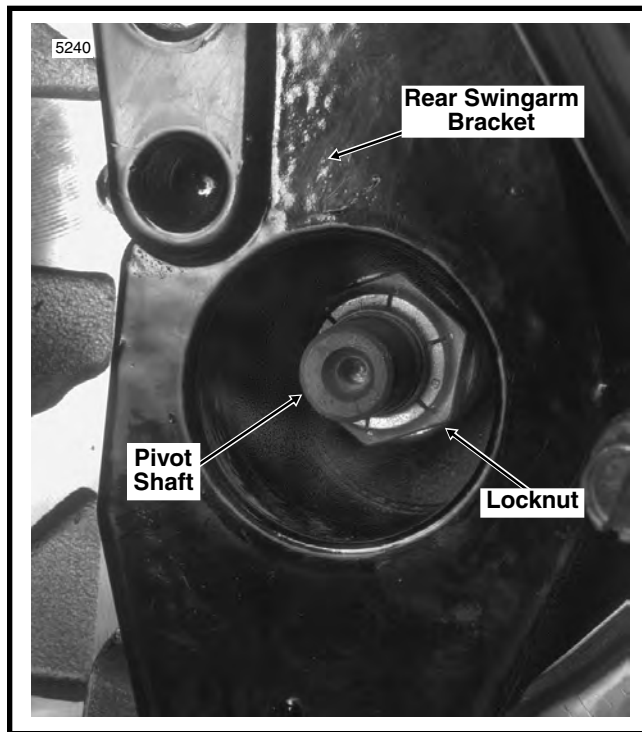

Figure 35. Remove Chrome Plugs and Check Pivot Shaft Locknut Torque
2. See Figure 35. Hold right side nut on the pivot shaft and tighten left side locknut to 40-45 ft-lbs (54-61 Nm).